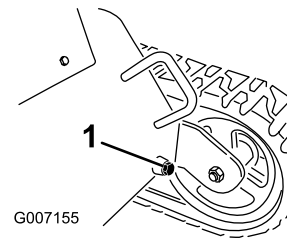

Figure 77
7. Place a large drain pan, capable of holding 15 US gallons (60 l), under the drain plug on the front of the traction unit (Figure 77).
8. Remove the drain plug and allow the oil to drain into the pan (Figure 77).